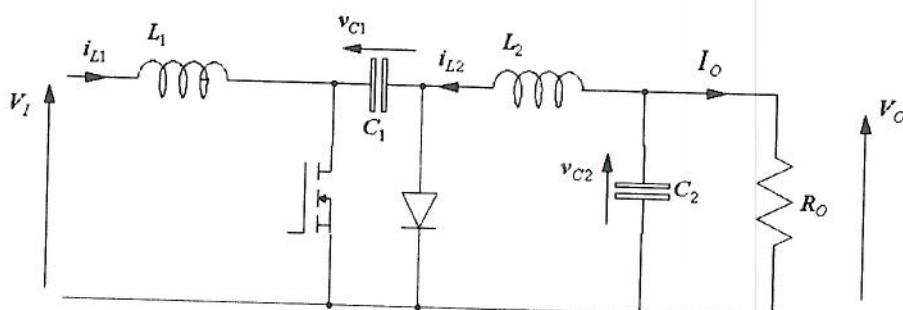

Figure Q4.1 Ćuk converter
- b) The designer finally chooses a Ćuk converter, shown in Figure Q4.1. Derive its voltage transfer ratio, stating your assumptions.